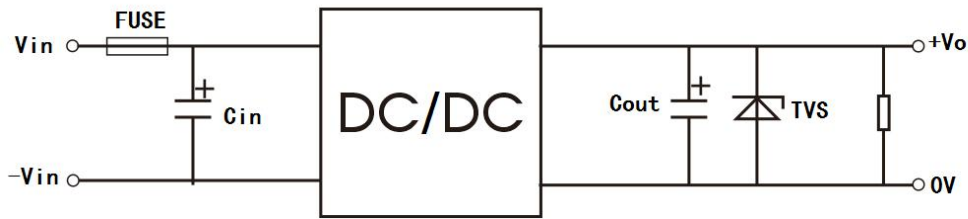

Fig.3
(1) During product testing and application, please follow the recommended test circuit (Figure 3); At least one electrolytic capacitor  $C_{in}$  ( $\geq 470\mu F$ ) is guaranteed to be connected externally to suppress the possible input surge voltage;
(2) If the input terminal of the product is connected in parallel with a circuit with large transient energy (such as a parallel motor drive circuit), the input voltage of the product may be pulled down. At this time, pay attention to the fluctuation of the input voltage of the product, and it is recommended to appropriately increase the capacitance of the electrolytic capacitor  $C_{in}$  at the input terminal to ensure the stability of the input terminal voltage and avoid the situation where the input voltage is lower than the under-voltage protection point and cause the product to restart repeatedly;
(3) If the output end of the product is inductive load (such as relay and motor), it is recommended to increase the output capacitance  $C_{out}$  capacitance within the capacitive load specification and add TVS tubes to filter out voltage spikes;
(4) If the input and output ripple needs to be further reduced,  $C_{in}$  and  $C_{out}$  capacity of external capacitors can be appropriately increased or external capacitors with small series equivalent impedance can be selected.  $C_{out}$  capacity of external capacitors cannot be greater than the maximum capacitive load of products.
(5) When ctrl is used, it can be directly connected to  $-V_{in}$  Pin to achieve output enable control.